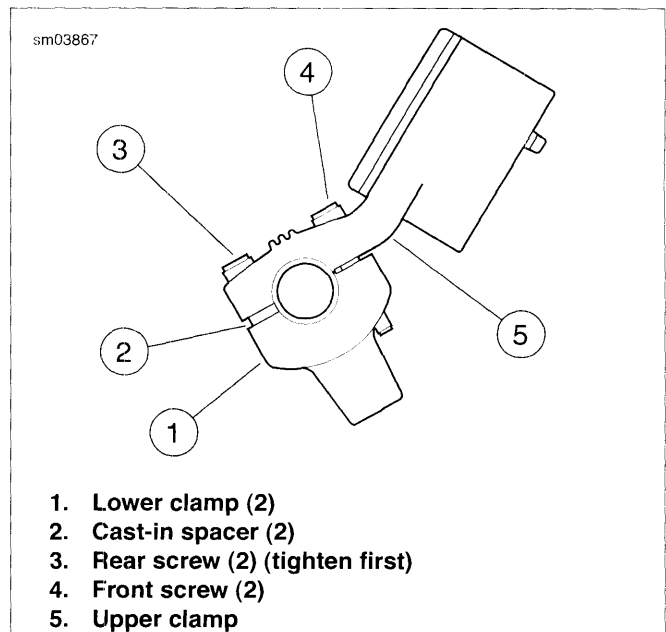
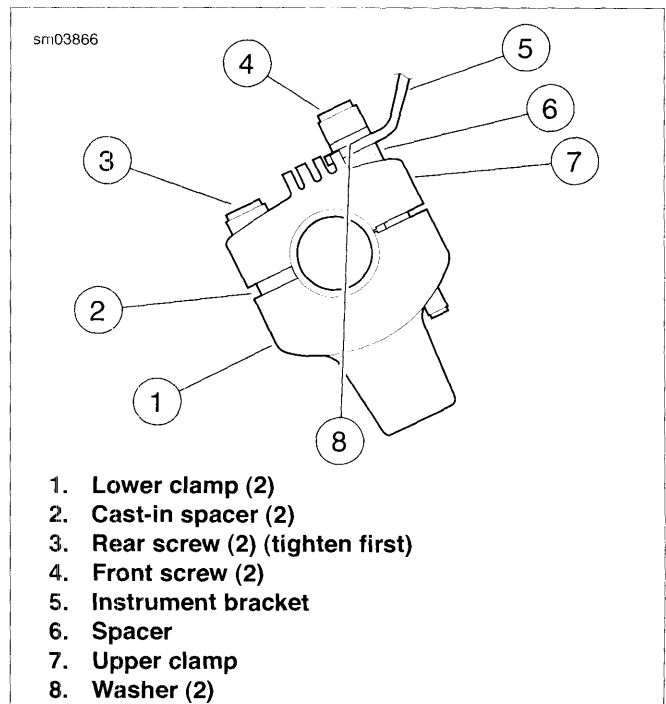

Figure 2-221. Handlebar Riser: XL 1200L/XL 1200N
Figure 2-222. Handlebar Clamp: XL Models with Bolt-On Instrument Bracket
2. Slide right handlebar control housing and throttle assembly (6, 8, 11) onto right end of handlebar (7). Position handlebar on lower handlebar clamps.
3. Place upper handlebar clamp (5) or clamp/instrument bracket (2) in position and install four screws (4).
- a. See Figure 2-222. Place spacers (6) over two front mounting holes of upper handlebar clamp.
- b. Position instrument bracket (5) over two front holes of upper handlebar clamp and install two screws (4) and washers (8).
5. See Figure 2-221. Adjust handlebars to desired position. Tighten rear screws first, to 12-18 ft-lbs (16.3-24.4 Nm). Then tighten front screws to 12-18 ft-lbs (16.3-24.4 Nm).